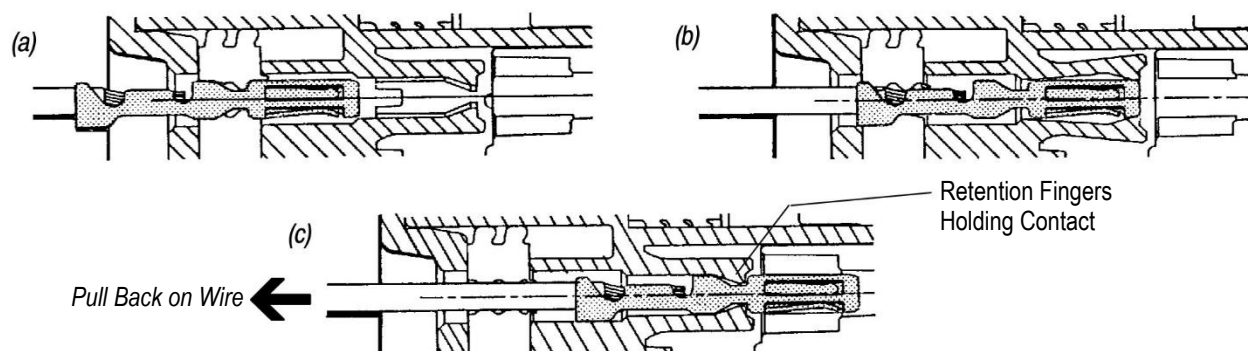

Figure 4
1. To insert a contact, push it straight into the appropriate circuit cavity as far as it will go (see Figure 4).
2. Pull back on the contact wire with a force of 4.45 or 8.9 N [1 or 2 lb-force] to be sure the retention fingers are holding the contact (see Figure 4).